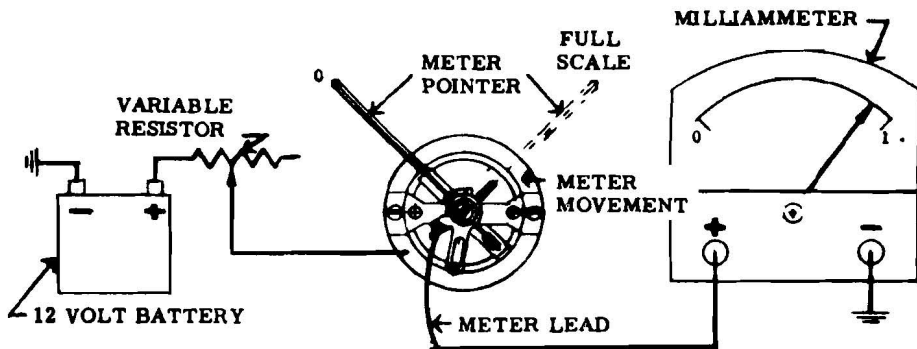

FIGURE 1
### TESTING THE METER MOVEMENT (See Figure 1.)
2. Connect battery, variable resistor, meter movement and milliammeter as shown in Fig. 1.